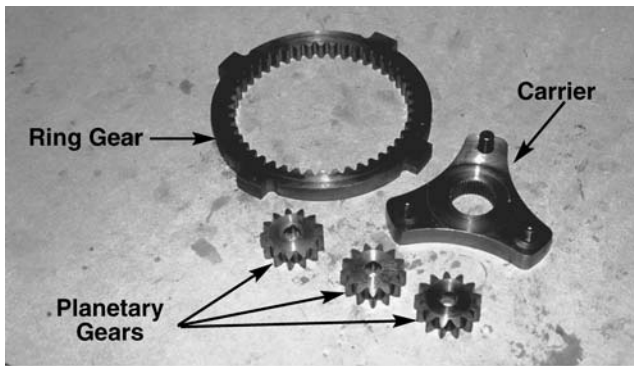

Figure 10-63.
23. Install the ring gear into the housing. It has four tabs and should rest in the housing and be loose. See Figure 10-63.